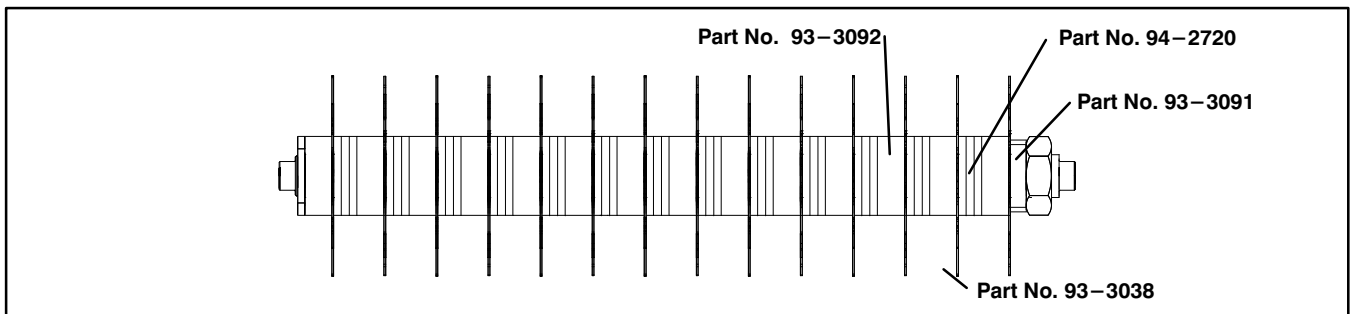

Figure 15
1-3/4" Spacing – Requires (14) Blades (part no. 93-3038), (39) 1/4" Thick Spacers (part no. 94-2720) and (14) 1" Thick Spacers (part no. 93-3092) (Fig. 15).